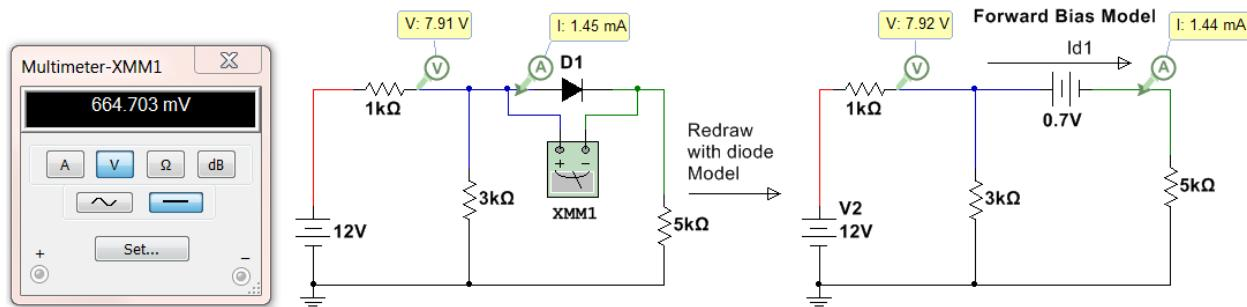

Figure 6.6: Circuit for Example 6.3
Step 2) The circuit on the right side of Figure 6.6 shows the forward bias model replacing the diode. **The node where the anode was connected is connected to the + side of the battery.** 0.7 V is used for the battery voltage because the problem stated it is a silicone diode. Next, calculate the current, I_{D1} . The mesh matrix method used in the DC Circuits eBook will be used.
- Solving this matrix yields $I_2 = I_{D1} = 1.44$ mA (This is verified in Multisim in the right circuit of Figure 6.6)
- **Note:** The actual diode voltage is shown in Multimeter XMM1 to be 664.703 mV. The 0.7 V diode drop assumption yielded a slightly different result than the actual values (shown in the left circuit in Figure 6.6).